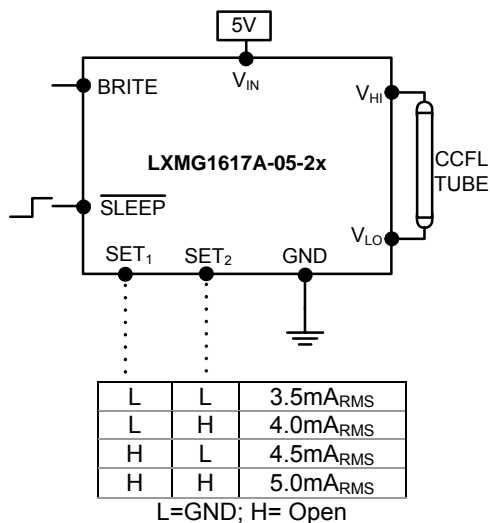

Figure 2 – Max Output Current
- Use the SET₁ and SET₂ (see Figure 2) inputs to select the desired maximum output current. Using these two pins in combination allows the inverter to match a wide variety of panels from different manufacturers. Generally the best lamp lifetime correlates with driving the CCFL at the manufacture's nominal current setting. However the SET₁ and SET₂ inputs allow the user the flexibility to adjust the current to the maximum allowable output current to increase panel brightness at the expense of some reduced lamp life.